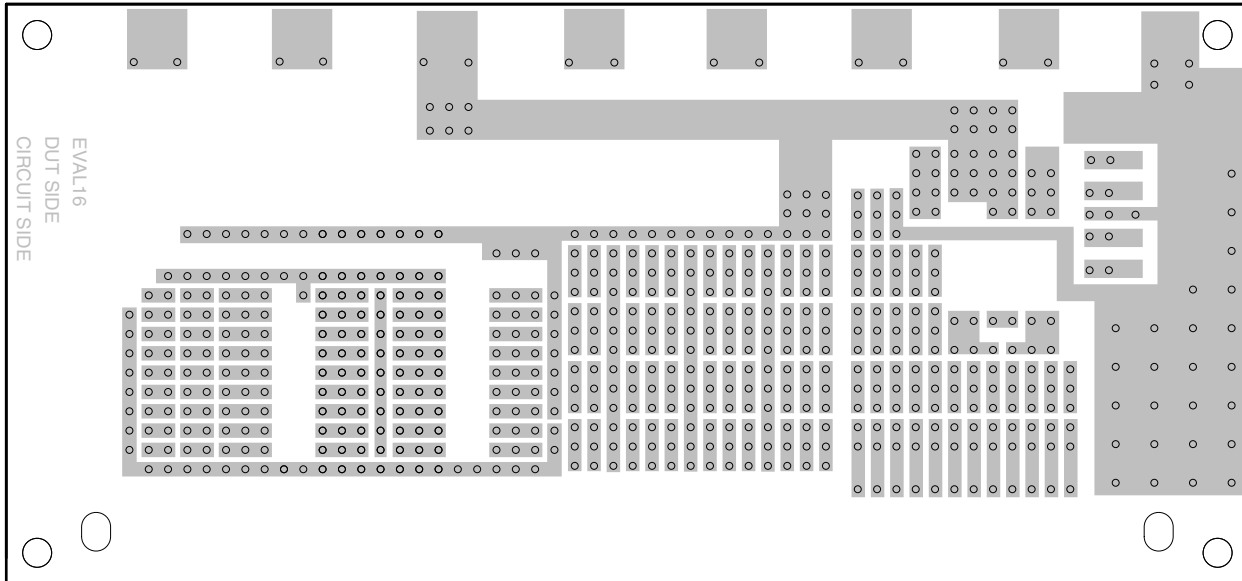

FIGURE 1. PCB
5. Install leads of the DUT into the MS06 on the evaluation board. Use #6 self-tapping screws to secure the evaluation board to the HS20 heat sink as shown in the assembly diagram (Figure 1).
Only components unique to the EK15 are provided in this kit. Hardware similar to that shown in Figure 1 must be obtained locally.